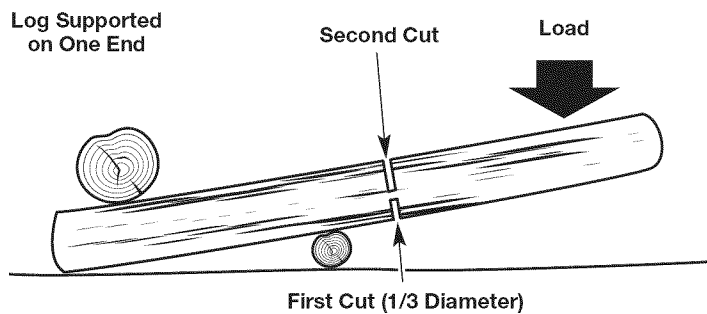

Fig. 17
- If the log is supported on one end (Fig. 17), make the first cut from below (*underbucking*). Refer to *Underbucking*.